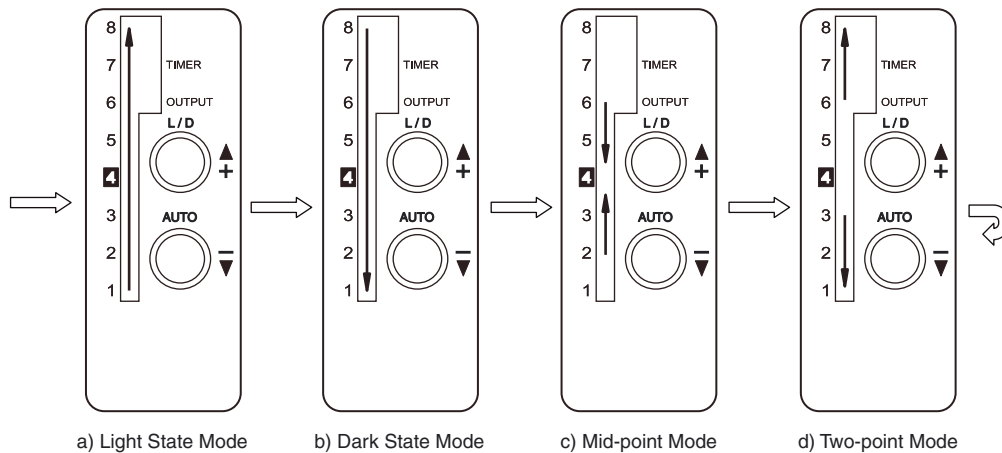

Figure 1. LED flashing sequence for automatic teach modes
2) While pressing the AUTO button, repeatedly press the "+" button to scroll through the four possible automatic teach modes. The direction of the flashing contrast indicator LEDs (numbered 1 through 8) indicates the current automatic teach mode (see Figure 1). When the desired mode is indicated, release the AUTO button. Descriptions of the four automatic teach modes are below.